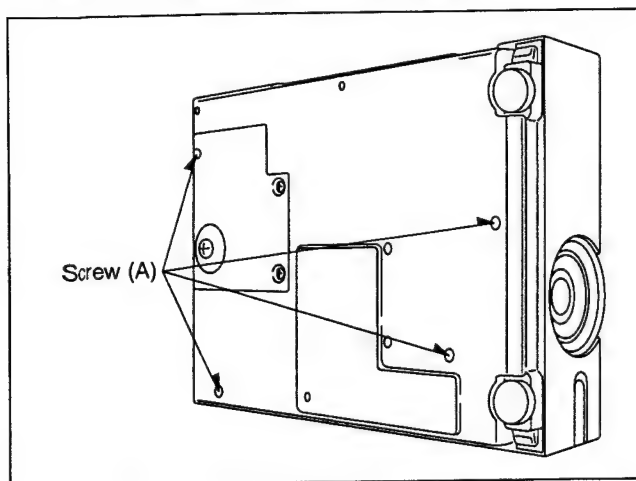

Fig. D2
1. Remove 4 screws (A) as shown in Fig. D2.